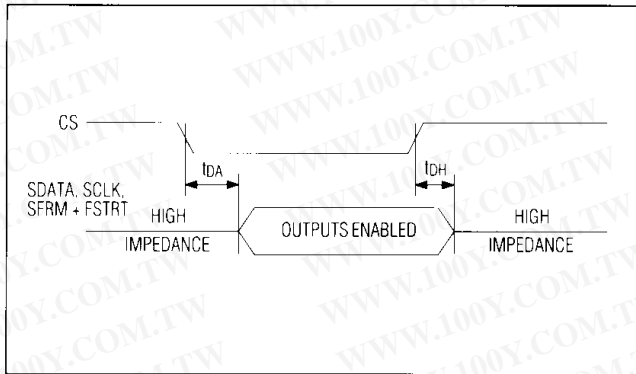
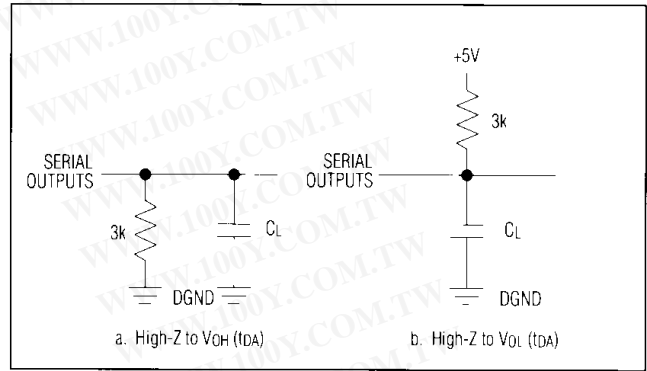

Figure 3. Data-Access + Data-Hold Timing
Figure 4. Load Circuits for Data-Access Time
**Note 5:** Control inputs specified with tr = tf = 5ns (10% to 90% of +5V) and timed from a voltage level of 1.6V. Output delays are measured to +0.8V if going low, or +2.4V if going high. For a data-hold time, a change of 0.5V is measured. See Figures 4 and 5 for load circuits.
See Figure 3 for the data-access and data-hold timing diagram if several devices share the serial bus. The equivalent load circuits for data-access and data-hold timing are shown in Figures 4 and 5.